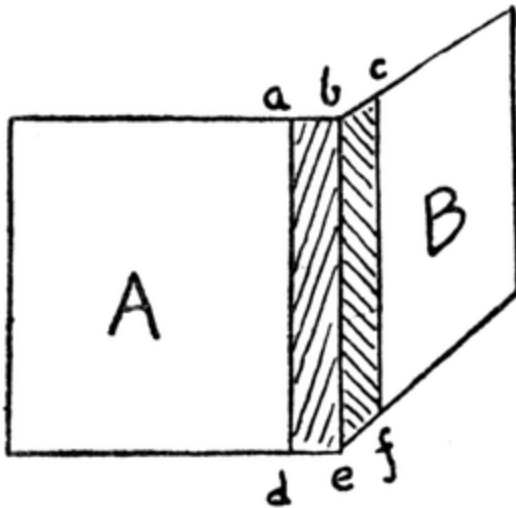

FIG. 2
(2) Using paper hinges. The hinge should extend the whole length of the edges that come together, as in Fig. 2, where pieces of cardboard A and B are joined by the hinge *a b c d e f*. Before pasting the hinge must be folded along *b e*, care being taken that *b e* is at right angles to *a c* and *d f*.